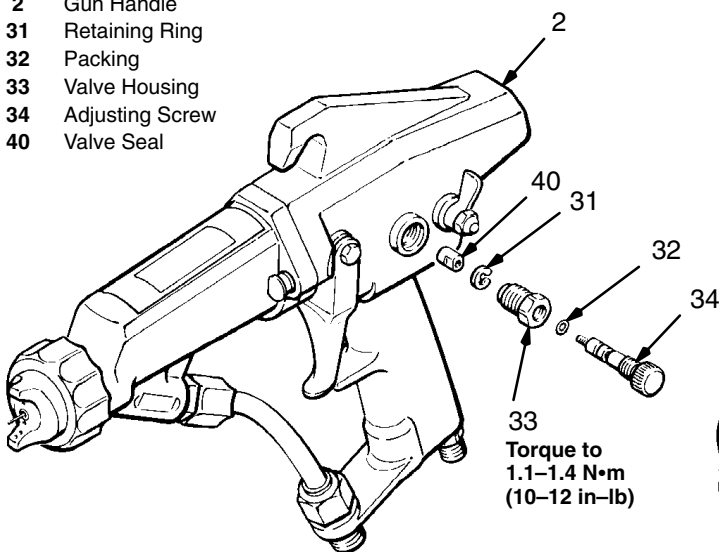

Fig 20
1. Place a wrench on the flats of the valve housing (33) and remove it from the handle (2). See Fig 20.
2. Remove the retaining ring (31).
3. Rotate the air adjusting screw (34) *counterclockwise* until it is disengaged from the valve housing threads. Pull the adjusting screw (34) out of the valve housing (33).
4. Clean all the parts and inspect them for wear or damage. If replacing the seal (40), unscrew it *clockwise* and remove it from the adjusting screw.
5. Apply medium grade thread sealant to the small threads on the end of the adjusting screw (34) and install a new seal (left hand thread).
6. When reassembling the fan air valve, lubricate the o-ring (32) and the adjusting screw threads with petroleum jelly.
7. After the retaining ring (31) is installed on the adjusting screw (34), back the adjusting screw out of the valve housing (33) until it bottoms out against the retaining ring (31).
8. Apply PTFE[®] paste to the threads of the valve housing (33) and install it in the handle (2). Torque the housing (33) to 1.1–1.4 N•m (10–12 in–lb).